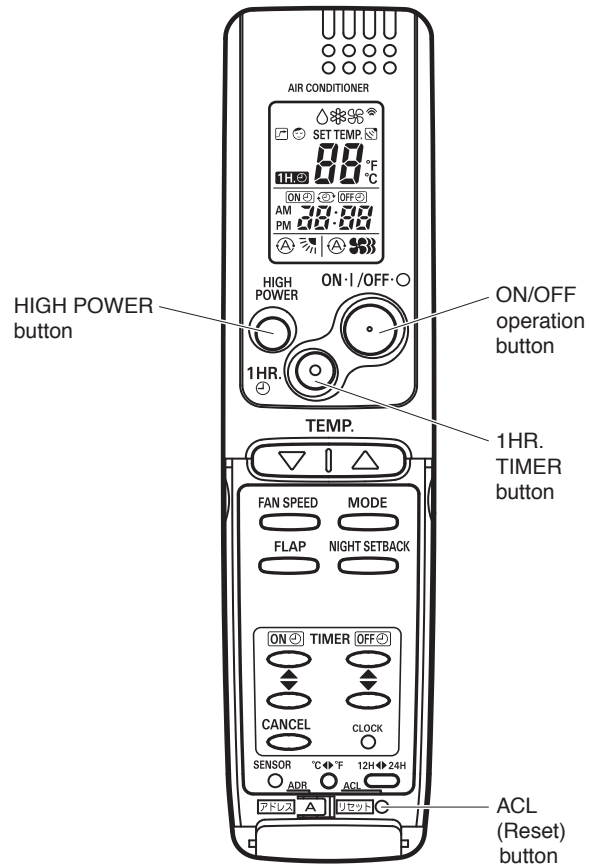

Fig. 29
(1) Set the remote controller in Test Run mode. (Fig. 29)
(2) Start Cooling mode test run by pressing the ON/OFF operation button of the remote controller. (Fig. 29)
(3) Press the ON/OFF operation button of the remote controller again to stop the test run. (Fig. 29)
(4) Finally press the ACL (Reset) button of the remote controller to release it from Test Run mode to return to normal mode. (Fig. 29)